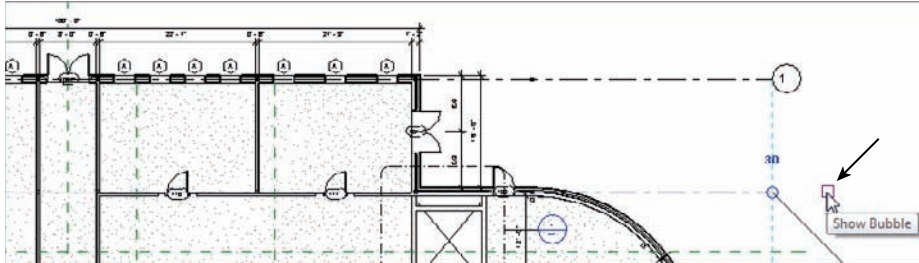

FIGURE 8.5 Adding the second grid line
- Pick the core centerline of the interior wall that terminates at the exterior wall, as shown in Figure 8.5.
- On the left side of grid 2, you will see a grid bubble (see Figure 8.5). You will also see the same blue check box. Click the check box to turn the grid head off at this location.